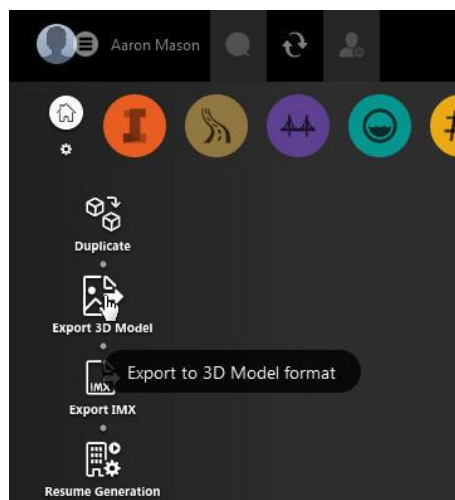

Figure 25: Export 3D Model
- Click the “Export 3D model format” button Figure 25)